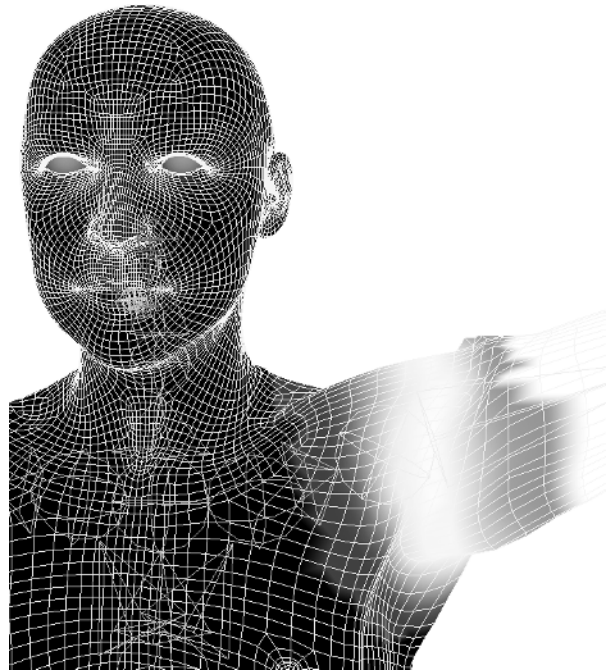

Figure 1.15
15. You should start to see some progress. At this point, you can use the Smooth operation to refine the weighting. Keeping shoulderLft_JNT selected, smooth the weights around the shoulder area. You should end up with weighting similar to Figure 1.15.